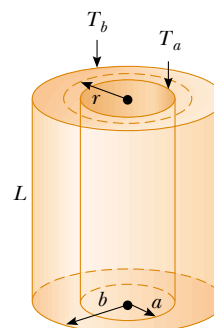

Figure P20.70
70. The inside of a hollow cylinder is maintained at a temperature T_a while the outside is at a lower temperature T_b (Fig. P20.70). The wall of the cylinder has a thermal conductivity k . Neglecting end effects, show that the rate of energy conduction from the inner to the outer wall in the radial direction is